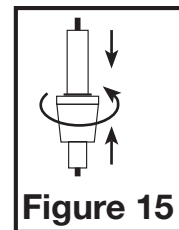

Figure 15
1. Follow the steps in **SECTION 5 Wiring** to gain access to the fuse holder located inside the wire compartment. To replace the fuse, squeeze the top and bottom of the fuse holder together while twisting the larger piece in a direction away from the tabs (**Figure 15**). Replace fuse only with 0.5 Amp, 250VAC, 5 x 20mm, Fast Acting fuse. Reconnect the fuse holder by lining up the top and bottom section and squeeze together while twisting until they are locked in place. Carefully tuck back into the wire compartment and reinstall the wire compartment cover.